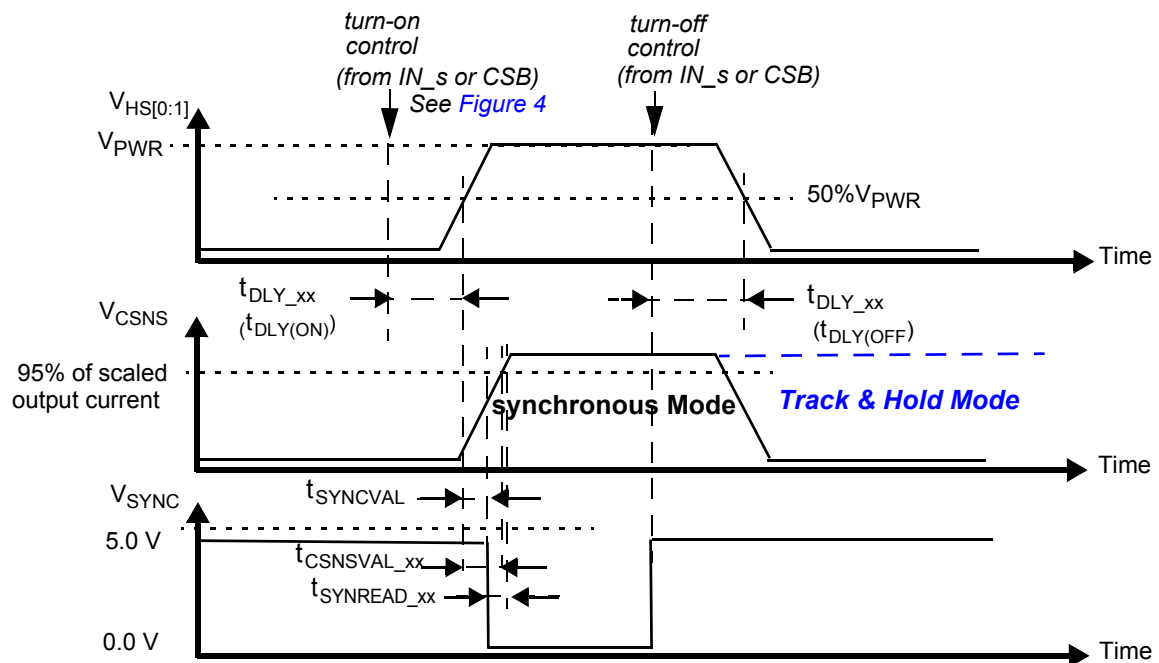

Figure 9. Synchronous & Track-and-Hold Current Sensing Modes: Associated Delay & Settling Times
- Settling time ($= t_{\text{CSNSVAL_xx}}$), SYNC output signal delay ($= t_{\text{SYNCVAL_xx}}$) and Read-out delay ($= t_{\text{SYNREAD_xx}}$) are defined for a stepped load current ($100\text{ mA} < I(\text{LOAD}) < I_{\text{OCLX A FOR CSNS_RATIO_S}} = 1$, AND $300\text{ mA} < I(\text{LOAD}) < I_{\text{OCLX A_0 FOR CSNS_RATIO_S}} = 0$). (see Figure 9 and Output Current Monitoring \(CSNS\))
The CS pin allows independent current monitoring of channel 0 or channel 1 up to the steady-state overcurrent threshold. It can also be used to sense the device temperature. The different functions are selected by setting bits CSNS1_en and CSNS0_en to the appropriate value (Table 23). When the CSNS pin is sensed during switch-off in the (optional) track & hold mode (see Figure 9), it outputs the scaled value of the load current as it was just before turn-Off. When several devices share the same pull-down resistor, the CSNS pins of devices, the current of which is not monitored, must be tri-stated. This is accomplished by setting CSNS0_en = 0 and CSNS1_en = 0 in their GCR register (Table 12). Settling time ($t_{CSNSVAL_XX}$) is defined as the time between the instant at the middle of the output voltage’s rising edge ($HS[0:1] = 50\%$ of V_{PWR}), and the instant at which the voltage on the CSNS pin has settled to $\pm 5.0\%$ of its final value. Anytime an overcurrent window is active, the CSNS pin is disabled (see Overcurrent Detection on Resistive and Inductive Loads). The current and temperature sensing functions are unavailable in Fail-safe mode and in Normal mode when operating without the V_{DD} supply voltage. In order to generate a voltage output, this pin requires a pull-down resistor ($R(CSNS)=1.0\text{ k}\Omega$ typ. and $470 < R(CSNS) < 10\text{ k}$). When the current sense resistor connected to the CSNS pin is disconnected, the CSNS voltage is clamped to $V_{CL(CSNS)}$. The CSNS pin can source currents up to about 5.6 mA.
To synchronize current sensing with an external process, the SYNC signal can be connected to a digital input of an external MCU. An open-drain pull-down on SYNC indicates that the current sense signal is accurate and ready to be read. The current sense signal on the CSNS pin has the specified accuracy $t_{SYNREAD_XX}$ seconds after the falling edge on the SYNC pin (Figure 9) and remains valid until a rising edge is generated. The rising edge that is generated by the SYNC pin at the turn-OFF instant (internal or external) may also be used to implement synchronization with the external MCU. Parameter t_{SYNVAL_XX} is defined as the time between the instant at the middle of the output voltage rising edge ($HS[0:1] = 50\%$ of $VPWR$), and the instant at which the voltage on the SYNC-pin drops below 0.4 V (V_{SOL}). The SYNC pins of different devices can be connected together to save micro-controller input channels. However, in this configuration, the CSNS of only one device should be active at a time. Otherwise, the MCU is not be able to determine the source of the SYNC signal. The SYNC pin requires an external pull-up resistor to V_{DD} .